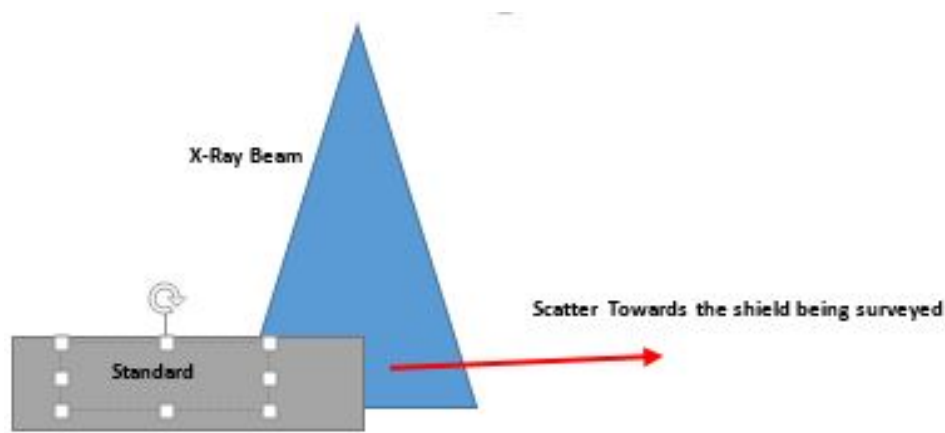

Figure 2-Direction of radiation scatter when standard is centered in the beam path
- Surveys of the Load Shield or Unload Shield are done with a whole round water standard with its end half-way into the beam with empty half toward the shield being measured (**Figure 2**).